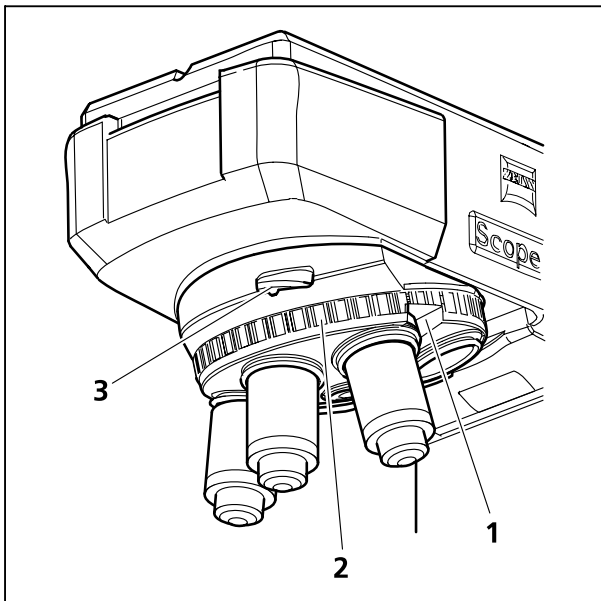

Fig. 4-30 Nosepiece with compartment for compensators
- Equipped with compartment (Fig. 4-30/3) for compensators or fluorescence protection shield
- Furnished with three, six or no DIC positions (Fig. 4-30/1) according to configuration
- Turning the knurled wheel of the nosepiece (Fig. 4-30/2) allows for a quick change of the objectives